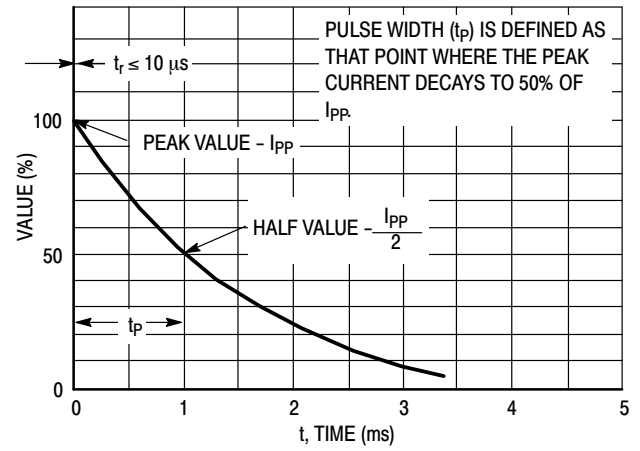
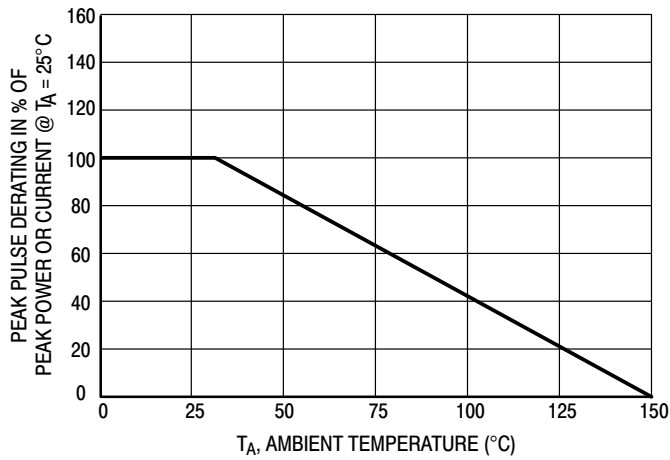

Figure 2. Pulse Waveform
Figure 3. Pulse Derating Curve
6. Surge current waveform per Figure 2 and derate per Figure 3 of the General Data – 600 Watt at the beginning of this group.